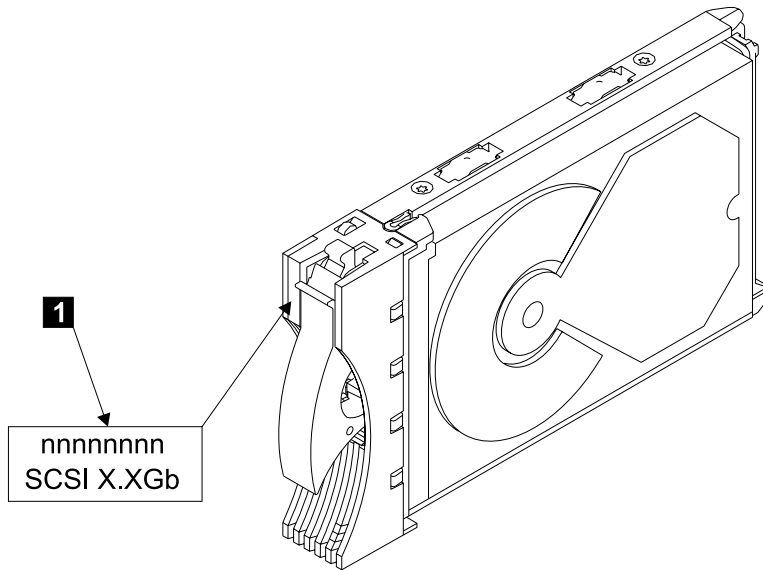
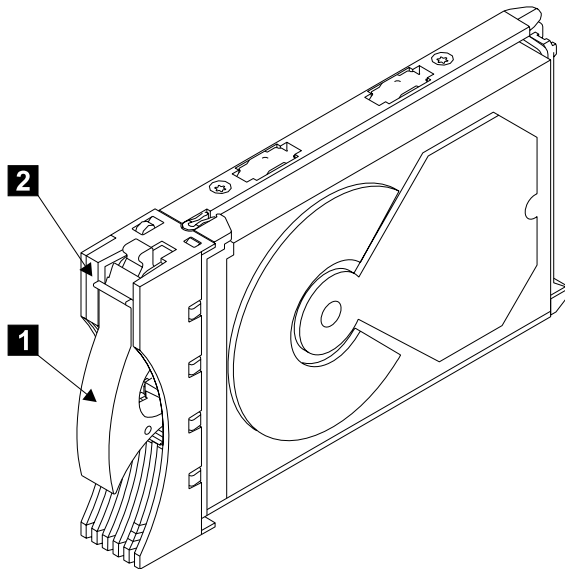
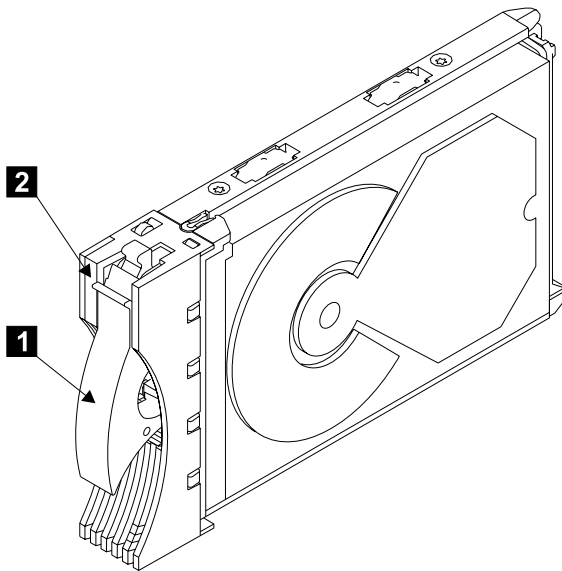

Figure 14. Disk Drive Module Label
Figure 17. Disk Drive Module Handle and Label
Figure 25. Disk Drive Module Handle and Capacity
2. You have the correct disk drive module. Refer to Figure 17. This disk drive module has, at the front, a handle **1** that can be pulled upward to open. The disk drive module should also be the correct size. The size of a disk drive module is shown on a label **2** at the front of the disk drive module. The label is shown in more detail in Figure 14 on page 21.
- You have the correct disk drive module. Refer to Figure 25. This disk drive module has, at the front, a handle **1** that can be pulled upward to open. The disk drive module should also be the correct size. The size of a disk drive module is shown on a label **2** at the front of the disk drive module. The label is shown in more detail in Figure 14 on page 21.